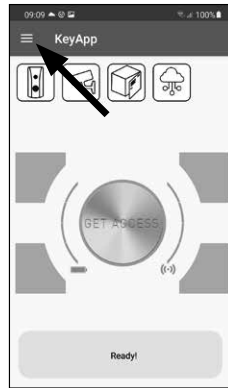

Fig. 5
② Once you have successfully registered, you can start setting up the *ENTRY 7711 Keypad PIN*. Open the main menu (Fig. 5).